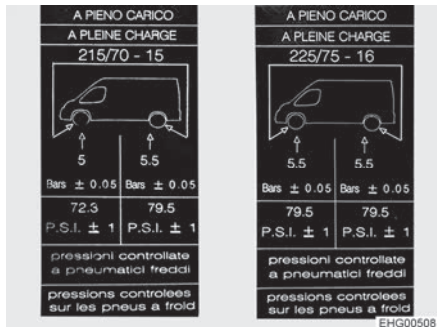

Fig. 132 Tyre pressure information sticker on B column (example)
- ▷ Information stickers with the required tyre pressure are attached to the inside of the B column (see Fig. 132).